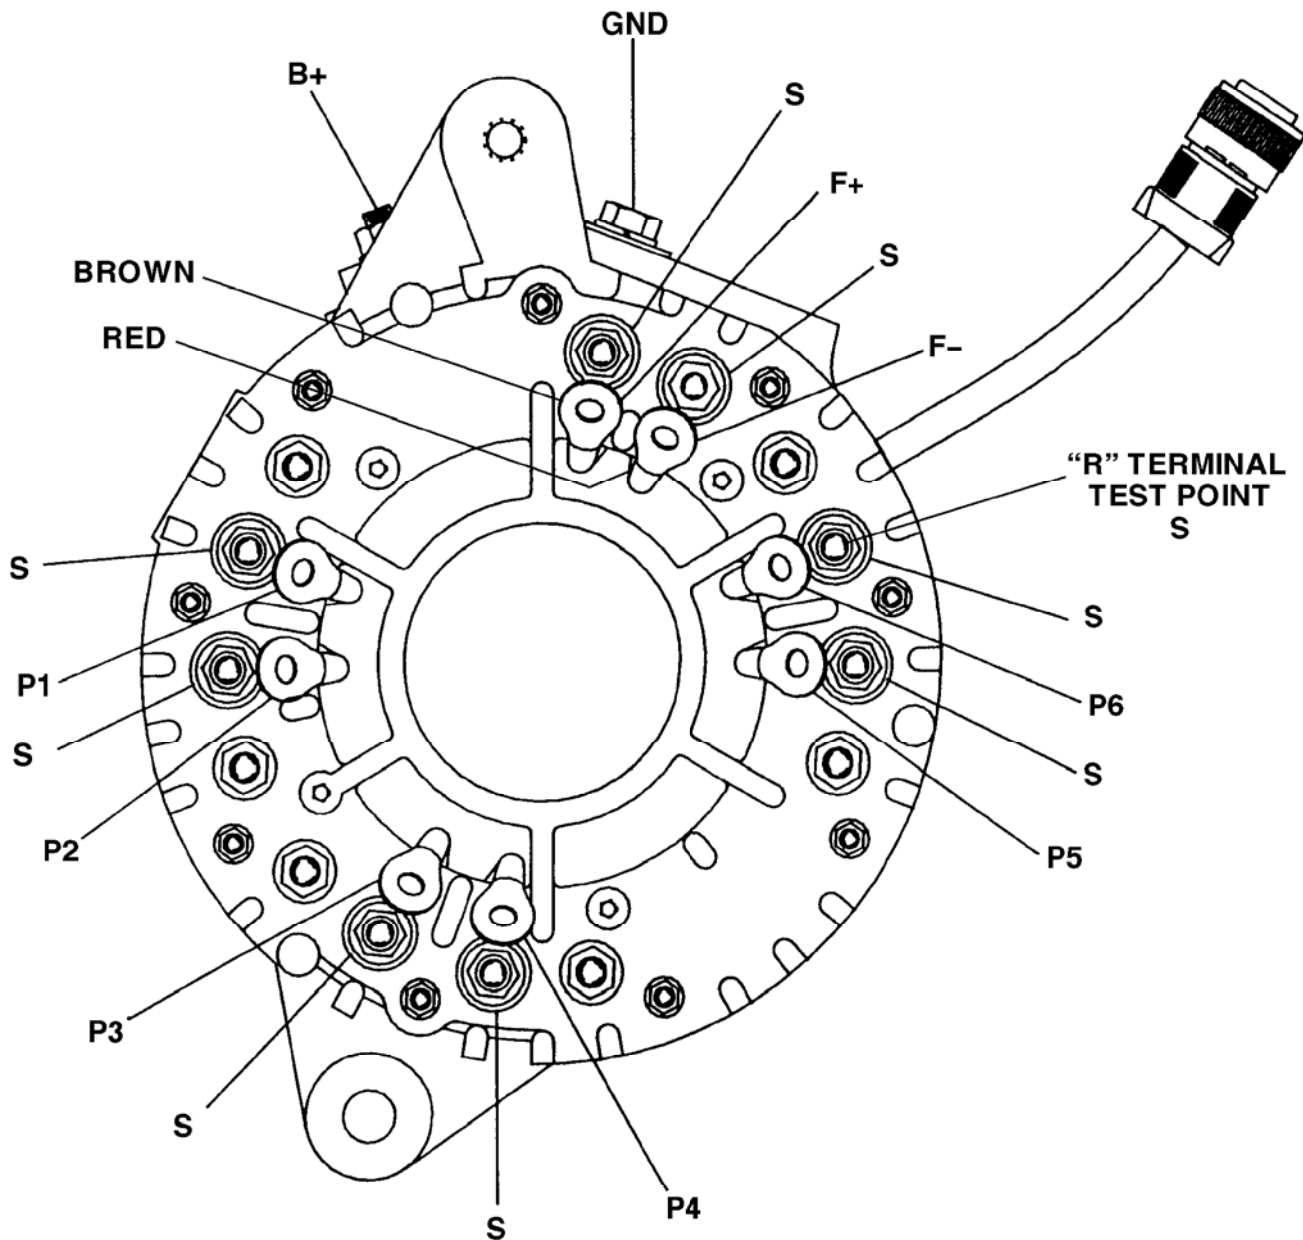

Figure 12-9.
**Disconnect all phase leads attached to the heatsink (“P1” through “P6”) in Figure 12-9. Disconnect alternator connector from voltage regulator.**
1. Remove both field coil (F+, F-) leads from terminal studs on the front housing. (See Figure 12-9).
2. Probe the alternator connector pins to insure all internal wiring is intact. (Refer to figure 12-9, page 14).
Remove all phase leads (P1-P6) from front housing (refer to figure 12-9 page 14). Note: Do not allow sleeving on leads to slide down leads; phase terminals without sleeves can short to alternator body.
1. Check positive diodes (Refer to Figure 12-9, page 14). Set ohmmeter to x 100 scale and make sure ohmmeter is zeroed. Connect one ohmmeter lead to the B+ output connector. Connect the other ohmmeter lead to each of the six heatsink phase terminals "S". All six readings should be nearly alike; either less than 600 ohms, or very high. If all six readings are not alike, the diode rectifier assembly is defective and the heatsink assembly or front housing assembly must be replaced.
2. Check negative diodes (Refer to Figure 12-9). Set ohmmeter to x100 scale and make sure ohmmeter is zeroed. Connect ohmmeter lead to the ground terminal located on the outside of the front housing, connect the other ohmmeter lead to each of the six heatsink phase terminals "S". All six readings should be nearly alike; either less than 600 ohms, or very high. If all six readings are not alike, the diode rectifier assembly is defective and the heatsink assembly is defective, and the heatsink assembly or front housing assembly must be replaced.
The alternator has two separate stator assemblies that will be checked individually. Make sure that all phase leads are disconnected from the heatsink (Refer to Figure 12-9).
1. Check front stator. Set ohmmeter to x1 scale and make sure ohmmeter is zeroed. Check for open stator windings by connecting ohmmeter between each successive pair of stator phase leads (Refer to Figure 12-9), ("P1"- "P2", "P2"- "P3", and "P1"- "P3"). Note it may be necessary to probe under the sleeves of the phase leads in order to make electrical contact. Ohmmeter should read less than 1 ohm between each pair of stator phase windings. If ohmmeter reads very high (infinity) the stator is open and must be replaced (replace or repair stator and shell assembly).